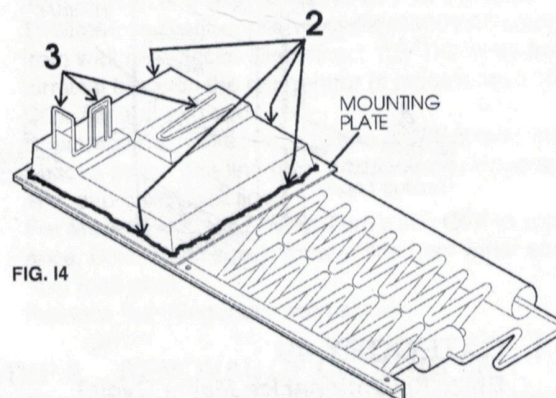

FIG. I4
2. Apply sealing permagum on mounting plate on all four sides (FIG. I4).
3. Apply thermal mastic on the evaporator tubes in food compartment and freeze compartment (FIG. I4).